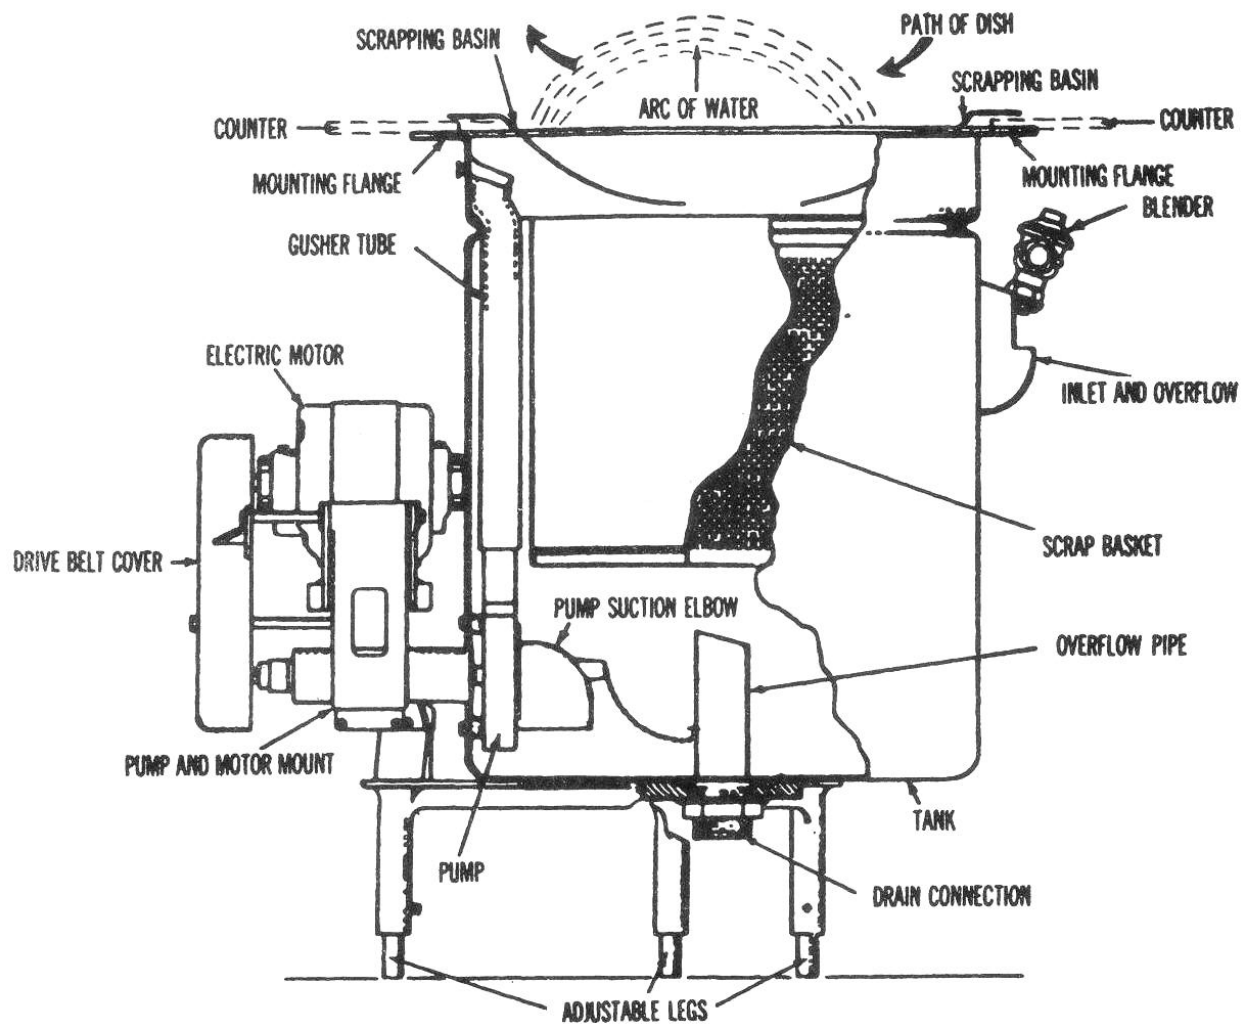

Figure 24. Cutaway diagram of a preflushing machine.
24. **PREFLUSHING MACHINE.** This machine (fig. 24) is used to remove food scraps and grease from plates and trays before they are placed in the dishwashing machine. The two major groups of components of the machine are the tank assembly and the power assembly. The tank assembly consists of a scrapping plate, a scrapbucket and a tank which is the reservoir for the flush water. The power assembly consists of a 1/6-horsepower motor that drives a rotary that forces water up through the gusher tube. The unit can be flush-mounted in the dirty-dish counter and is further supported by adjustable legs. Most of the components of the preflushing machine are stainless steel. The machine is equipped with a pump motor switch that starts and stops the electric motor, a pump intake plate that is set to control the height of the water column, and hot, cold, and blender water valves used to control the temperature and flow of water coming into the tank. The blender valve automatically mixes hot and cold water to a temperature of 115° F and discharges the mixed water at a steady rate of 1½ gallons per minute. During operation water valves for hot and cold water are mounted on the incoming water lines, when the preflushing machine is installed. They are not part of the machine.